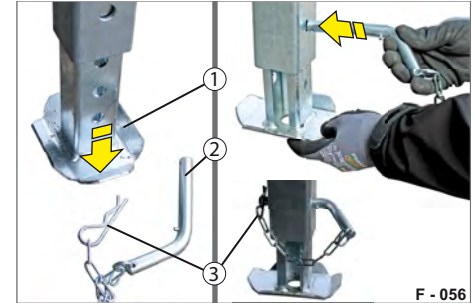

Fig. 40 Adjusting levelling foot
- ▶ Remove the spring pin (Fig. 40/3) from the socket pin (Fig. 40/2).
- ▶ Place the levelling foot (Fig. 40/1) on firm ground and adjust the levelling foot downwards until it can still be located in the further hole.
- ▶ Tilt the levelling foot (Fig. 40/1) up and secure it with the socket pin (Fig. 40/2) and spring pin (Fig. 40/3).